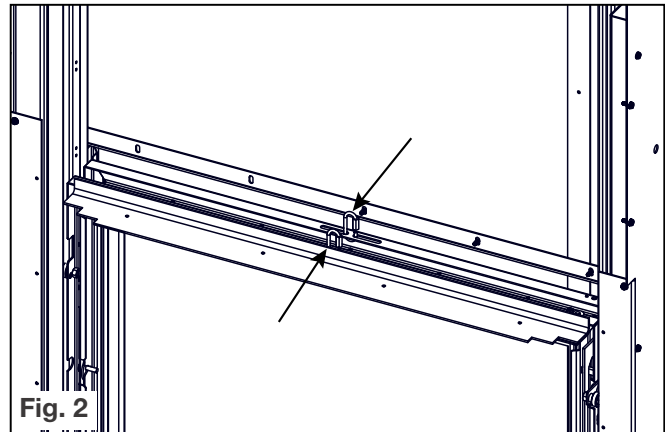

Fig. 2
2. In order to remove the doors, first tie off the counter balance weights. To hold, tether the counter balance weight to the door carabiner with a minimum 25 lbs weight (**Fig. 2**).